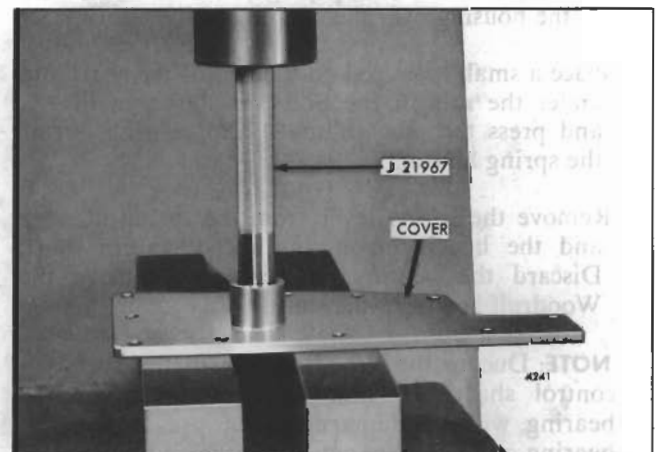

Fig. 5 - Removing Stop Lever Shaft Bushing from Governor Cover
- f. If bushing removal is necessary, support the inner face of the cover over the opening in the bed of an arbor press. Place the remover J 21967 on top of the stop shaft bushing and press the bushing out of the cover (Fig. 5).